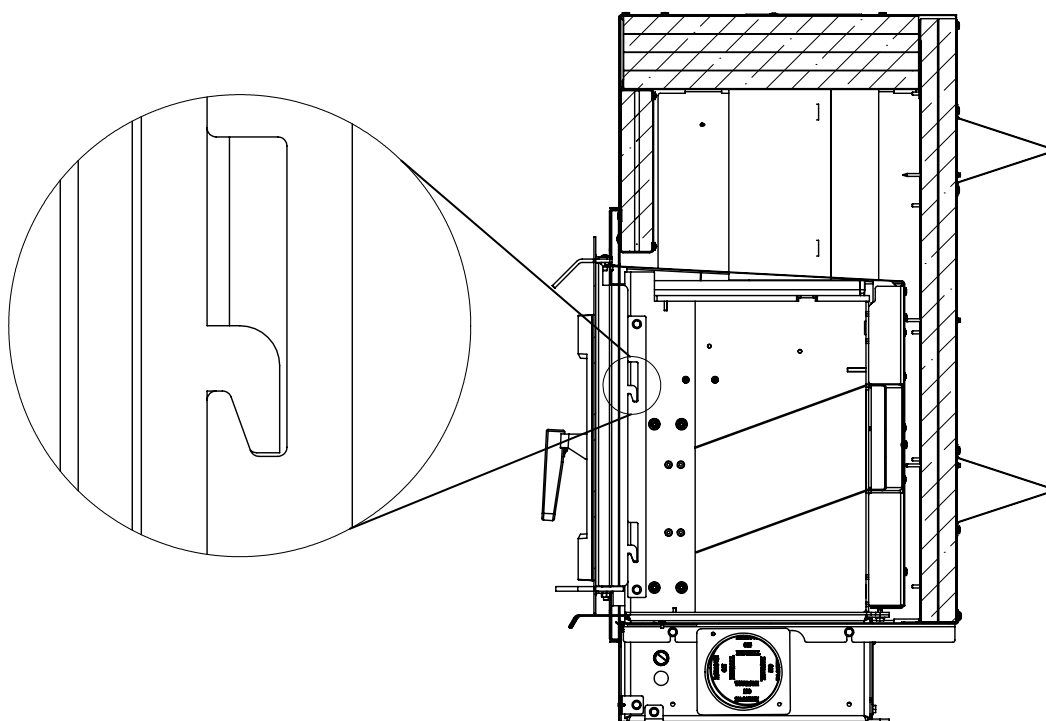

Figure 32: FP25 LE Front Surround hook detail.
2. The rating label plate is located on the left side, in the bottom casing support, between the side casing and the heat shield. Figure 32. It is attached to the heat shield by a stainless steel cable.